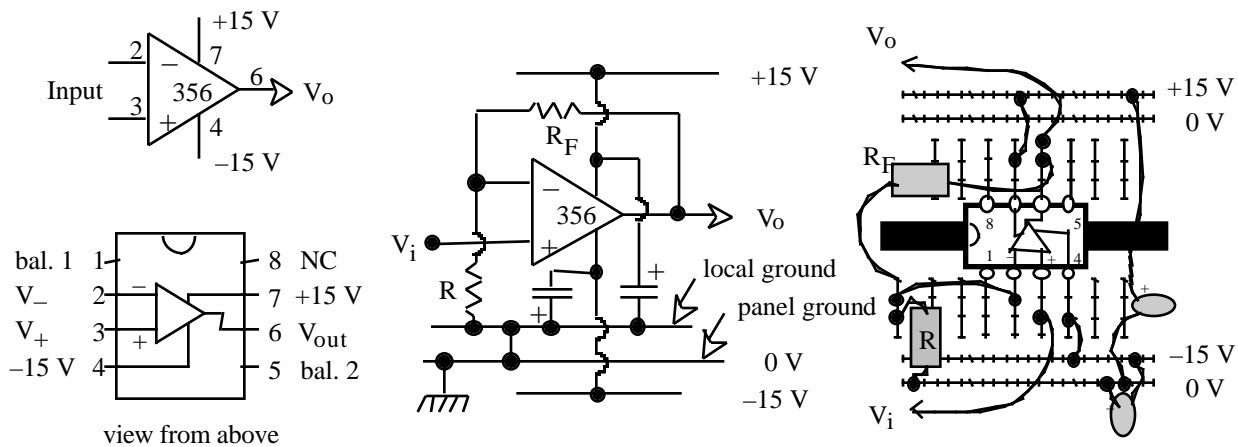

Figure 4.5 Op-amp pin diagram and layout for gain 100 amplifier
1. Draw a wiring diagram in your lab book next to the schematic diagram (as in Figure 4.5). For a complex circuit, it may be too tedious to show each wire, but it is very helpful to show the location of each component. Also include pin diagrams for each chip (at left in Figure 4.5).